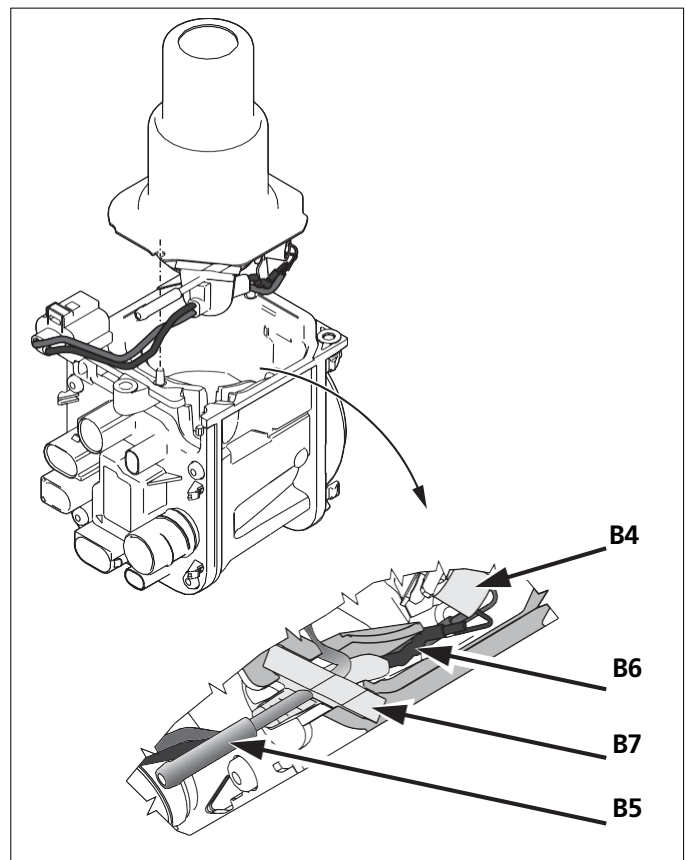

Fig. 904 Detailed illustration of cable routing for glow plug
1. Pre-position burner unit with grommet (B7) in combustion-air fan unit (G1). During installation, make sure that the glow plug cable (B6) and grommet (B7) are mounted in the guide and groove provided on the combustion-air fan unit (G1) (see Fig. 904). Press grommet (B7) into groove provided until it completely fill out the installation space.
Only use a new glow plug during installation. Uninsulated areas of the glow plug cable must not touch and must not come into contact with metal parts of the burner unit or the combustion air housing (danger of short circuits). The glow plug must not be twisted or jammed and must be seated in the guide as far as possible during installation (danger of breakage). When installing the burner unit, the cable must be routed so that it lies in the groove provided. Also see Section 9.2.2 and Fig. 904.